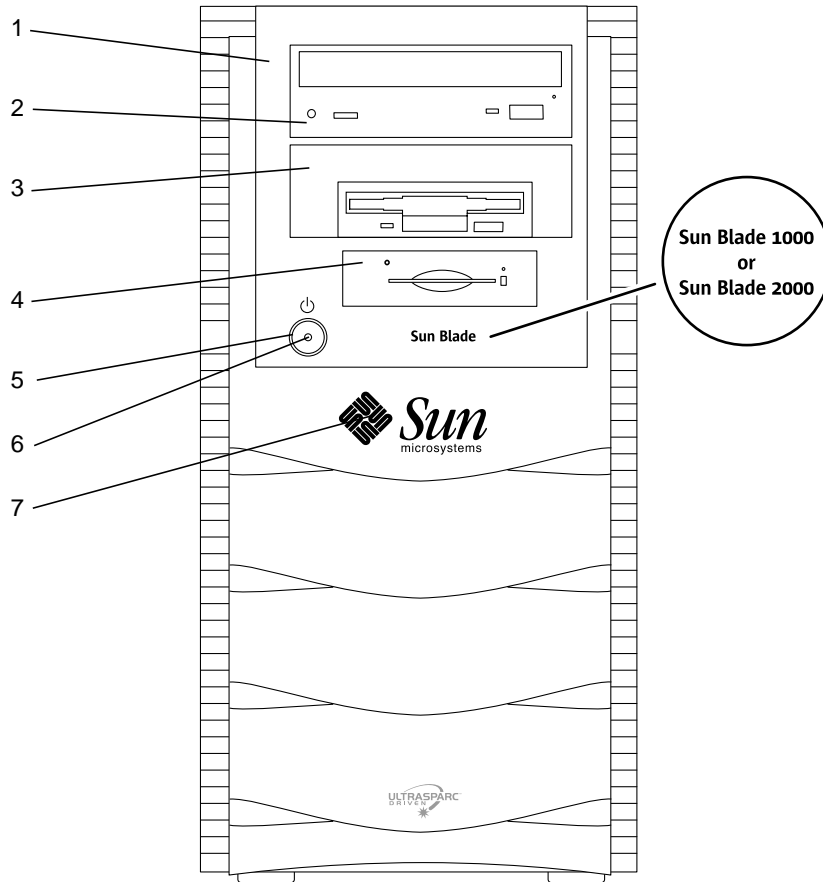

FIGURE 2 Front Panel Overview
The numbered list below corresponds to the numeric captions in FIGURE 2.
2. Press the power switch on the front panel and release it (see FIGURE 2).